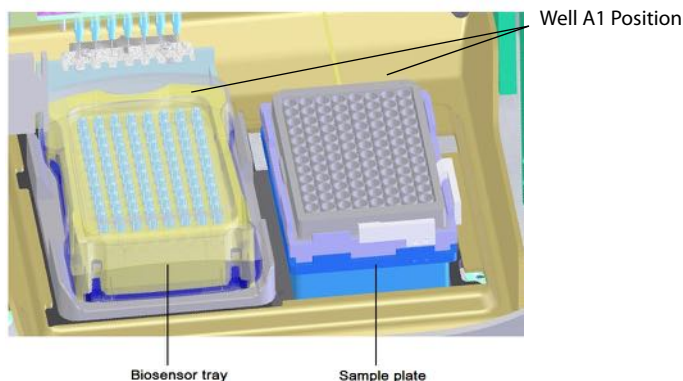

Figure 5-52: Biosensor Stage (left) and Sample Stage (right)
2. Place the biosensor tray on the biosensor stage (left side) so that well A1 is located at the upper right corner (see Figure 5-52).
3. Place the sample plate on the sample stage (right side) so that well A1 is located at the upper right corner (see Figure 5-52).